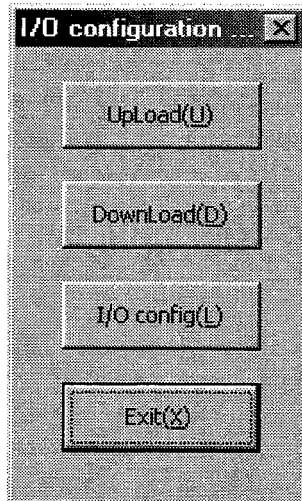

Figure 7.59 "I/O configuration" dialog box
Click "*I/O set (I)*" under "MainMenu" to display the "I/O configuration" dialog box (see Figure 7.59).